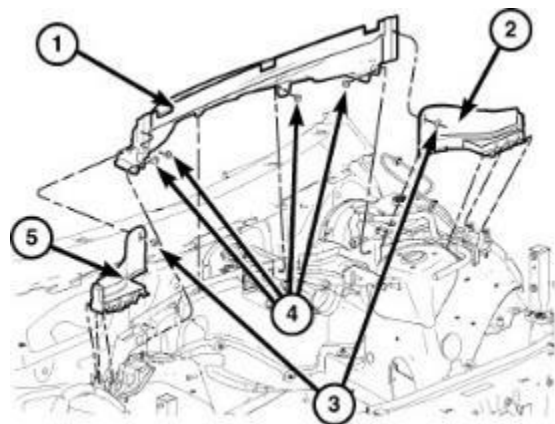

Figure 6 – Cowl Extension and Side Extensions
9. Remove the cowl extension (1) and the side extensions (2, 5) (Refer to 23 - Body/Exterior/SILENCER, Cowl Extension/Removal) (Figure 6).